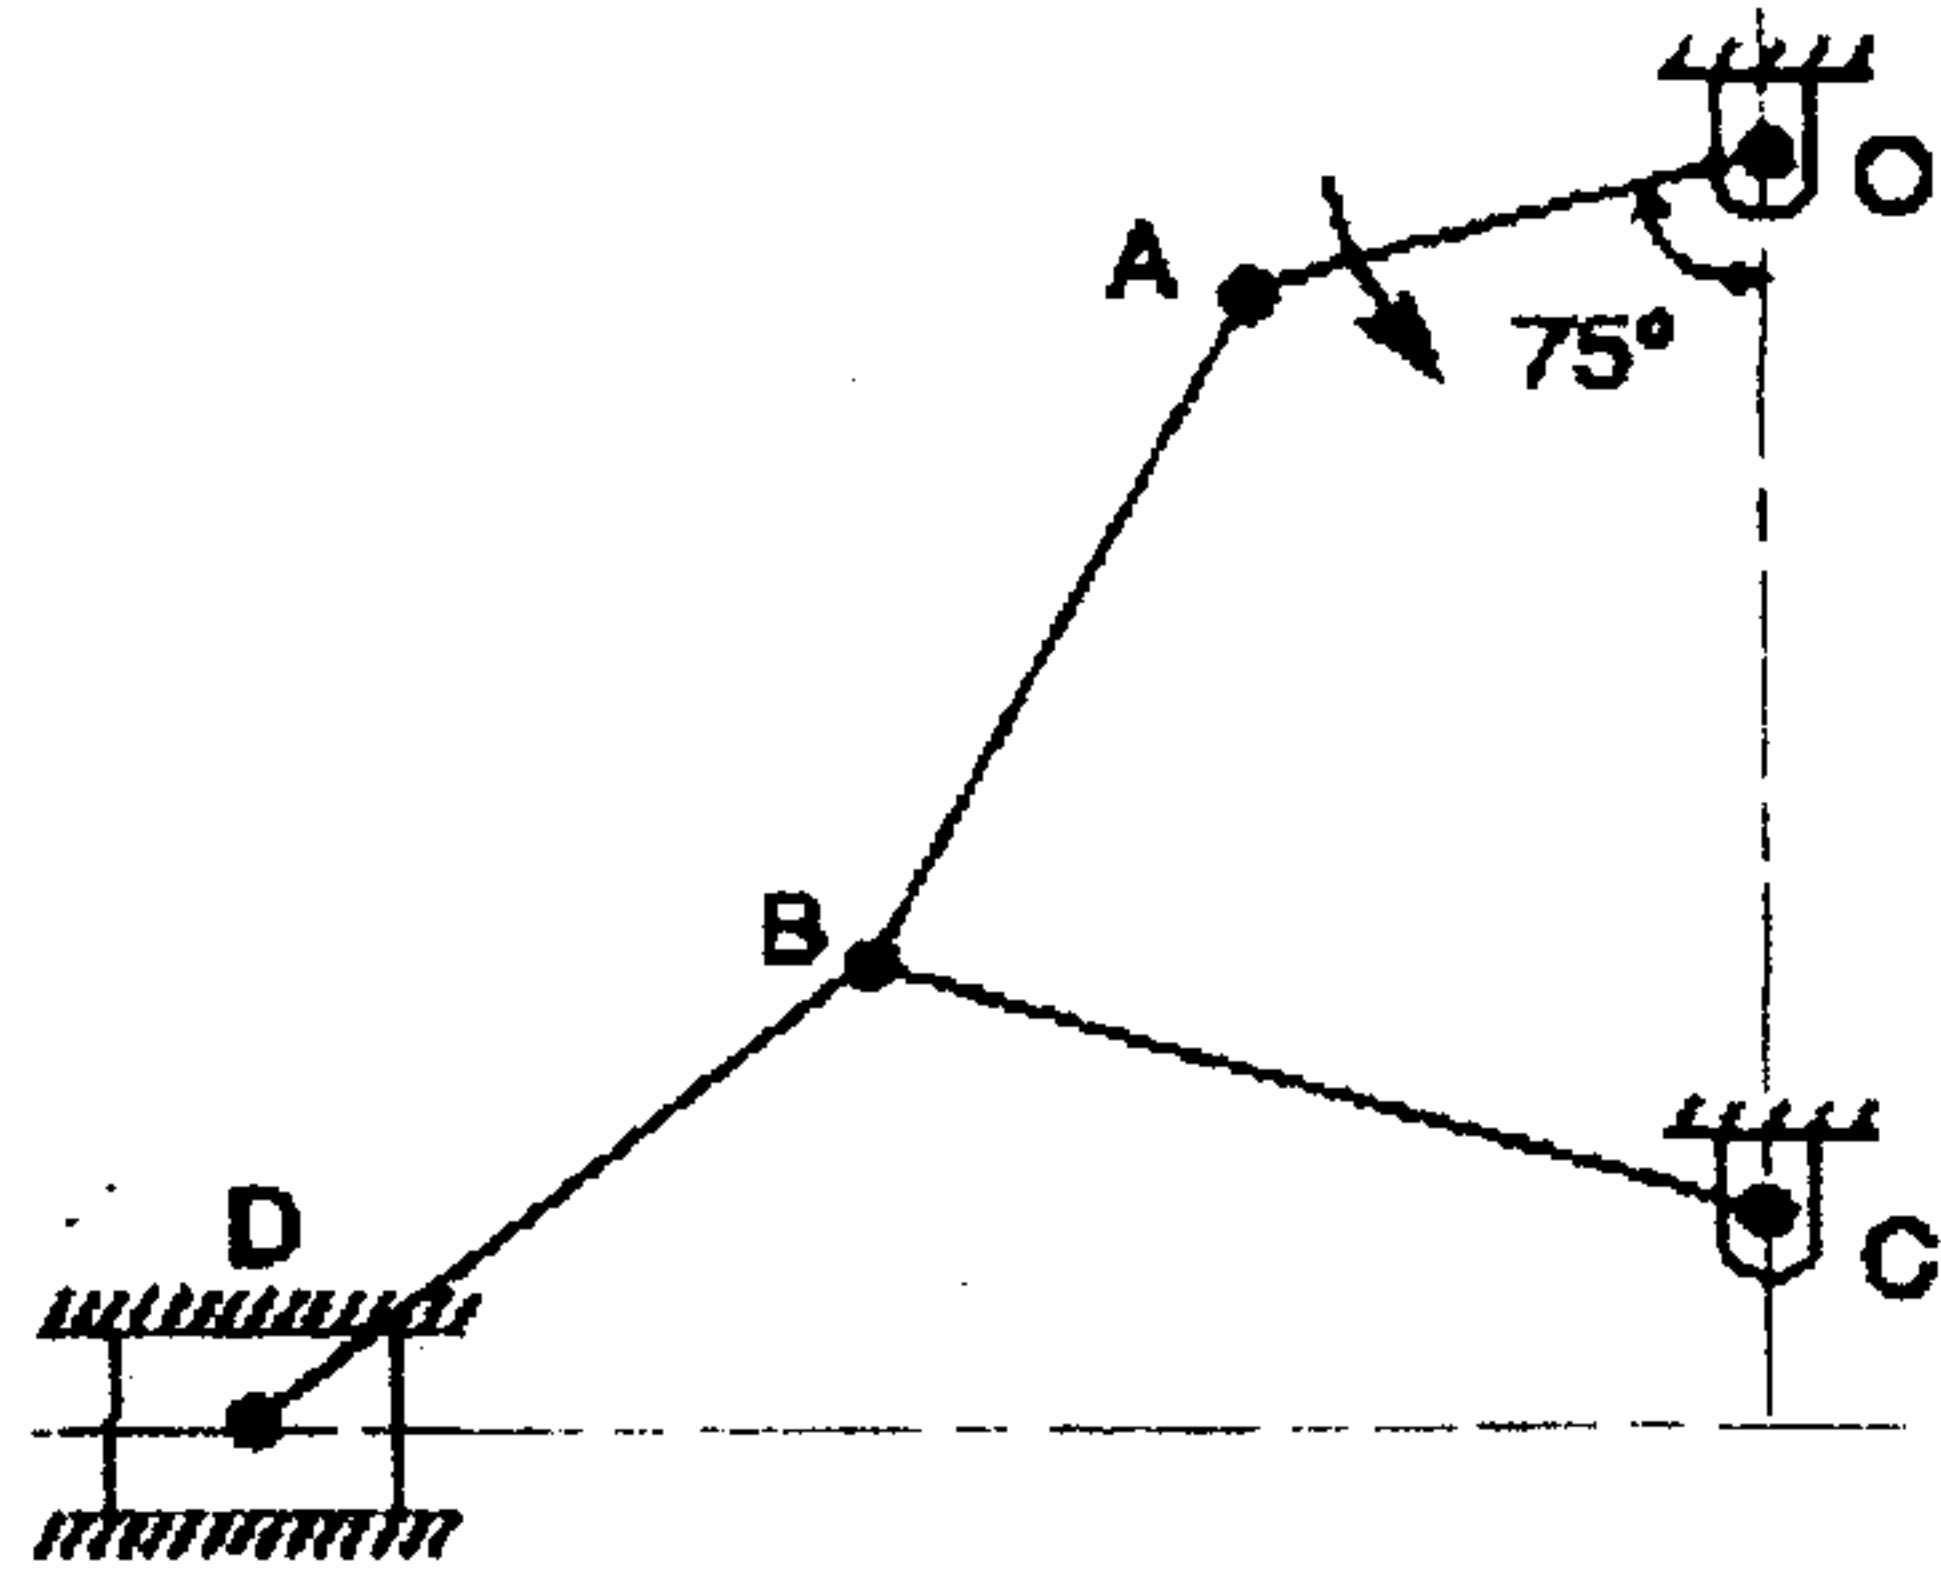

Fig. 12 (a)
12. (a) In figure, the angular velocity of the crank OA is 600 r.p.m. Determine the linear velocity of the slider D and the angular velocity of the link BD, when the crank is inclined at an angle of  $75^\circ$  to the vertical. The dimensions of various links are: OA = 28 mm; AB = 44 mm; BC = 49 mm; and BD = 46 mm. The centre distance between the centres of rotation O and C is 65 mm. The path of travel of the slider is 11 mm below the fixed point C. The slider moves along a horizontal path and OC is vertical. (Refer fig. 12(a)) **(16)**